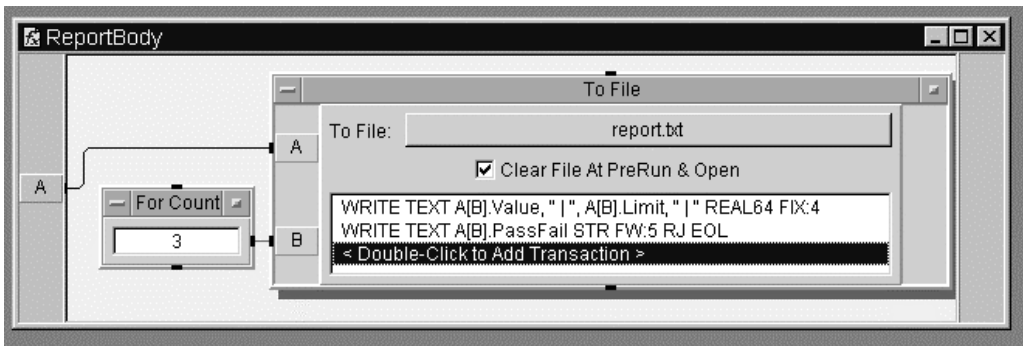

Figure 14.4. The ReportBody UserFunction
10. Open the ReportBody UserFunction; select a ToFile and ForCount; program it as shown in Figure 14.4.